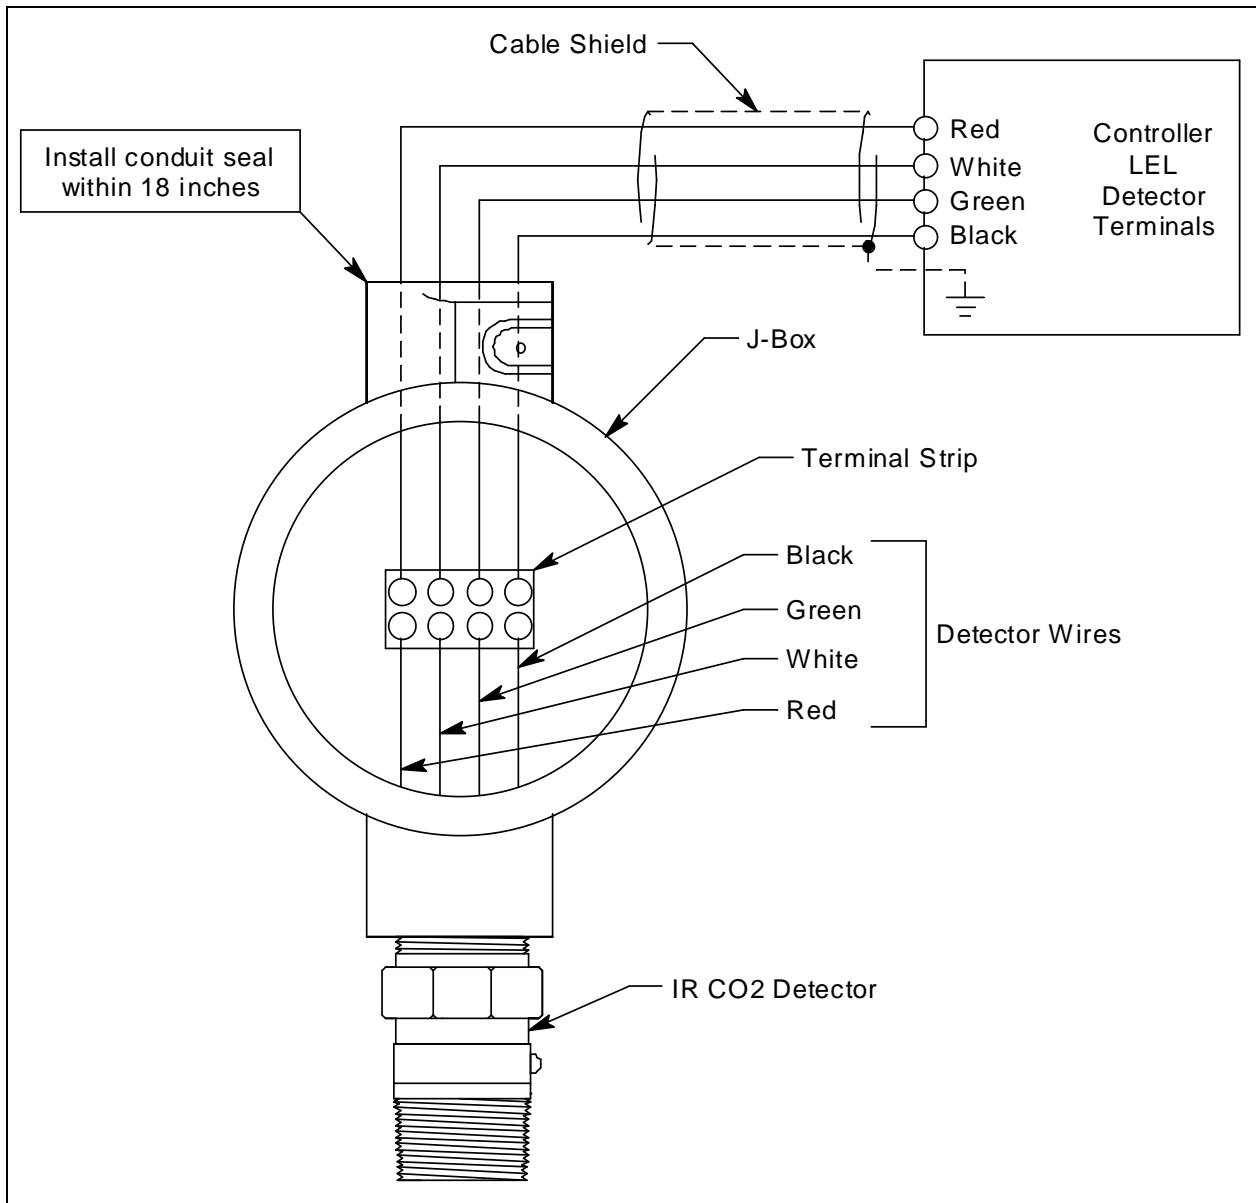

Figure 3: Wiring the CO₂ Detector to a Controller
As mentioned in “Description” on page 6, the IR CO₂ detector wires to an RKI controller the same way as an RKI LEL detector, to the LEL detector terminals. See Figure 3 below for the wiring connections.
If the detector is mounted directly to a controller, it is normally factory wired. Confirm that the detector’s wires are connected to the appropriate controller detector terminals and skip to “Start Up” on page 11. See Figure 3, the controller operator’s manual, and the controller’s detector head specification sheet for the 61-0191RK detector for the wiring connections.
7. If the detector is installed directly on a controller, connect the detector leads to the appropriate detector terminal strip terminals. See Figure 3 on page 10 for wiring to a generic controller. See the controller operator’s manual and the controller’s detector head specification sheet for the 61-0191RK detector for wiring specific to your controller.
If the detector is installed remotely from a controller in a junction box, connect the detector leads to the terminal block the same way the old detector was wired (see Figure 3 on page 10). See the controller operator’s manual and the controller’s detector head specification sheet for the 61-1004RK detector to verify the connections to the controller are correct.